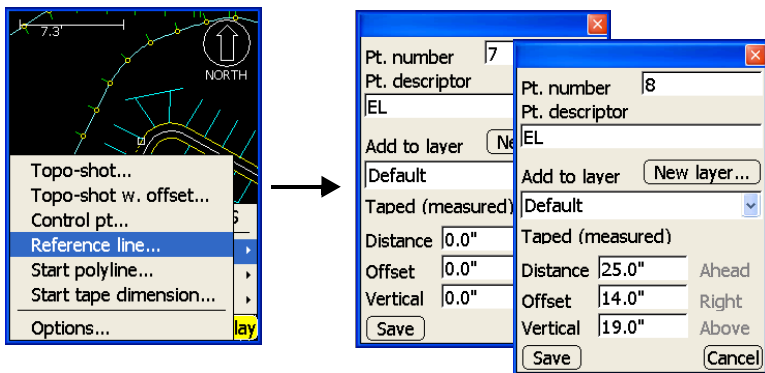

Figure 6-7. Reference Line Information
4. On the *reference line* dialog box, tap the point number and point descriptor (optional) fields and enter desired information (Figure 6-7).
6. Tap **Save** to record the point. The Pt. number automatically increments (Figure 6-7).